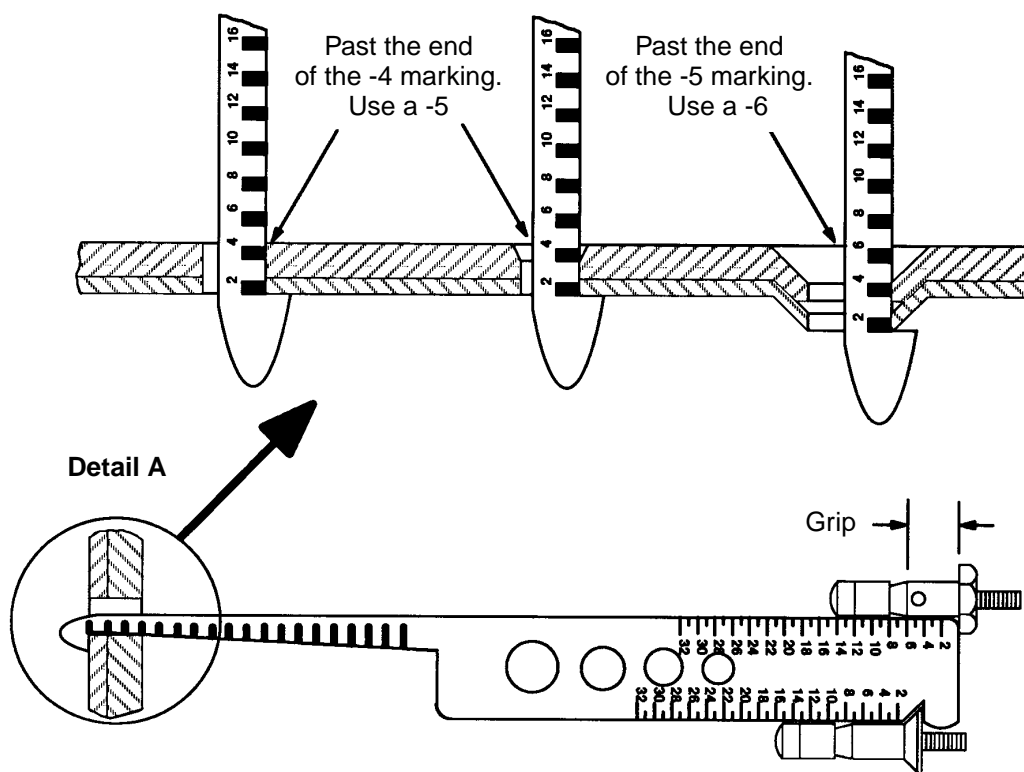

Figure 5 - Use of A Jo-Bolt Grip Scale
- 5.4.2 The fastener grip length specified on the engineering drawing, work order or assembly manual is only a reference length. To verify that the specified grip length is correct, ensure that the sheets are pulled up tight and measure the hole depth using a Jo-Bolt grip scale. The hole depth number shown on the grip scale corresponds to the Jo-Bolt pin grip length dash number. Always read to the next higher number as shown in Figure 5 (i.e., if the reading is past the **end** of the -4 marking, then use a -5 fastener). If a tapered sheet condition exists, use the grip length indicated for the thickest section.